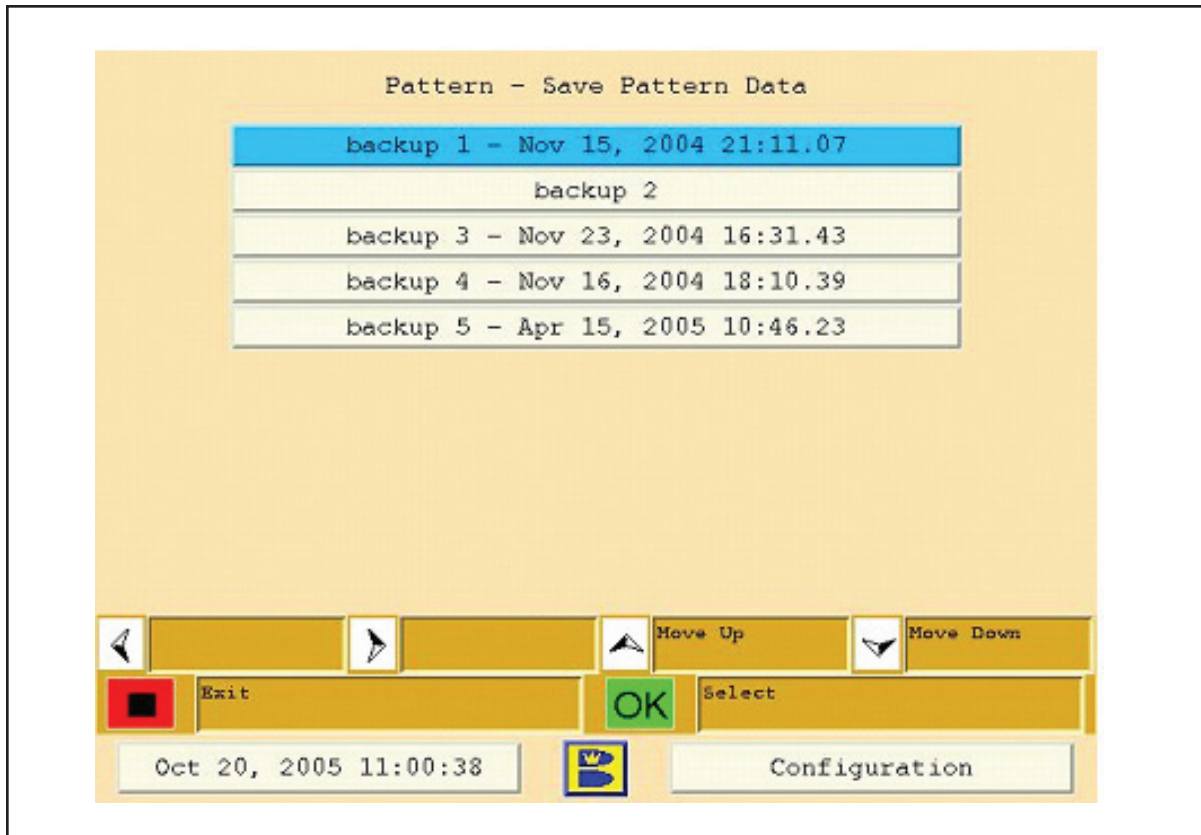

Figure 5-14. Save Pattern Data
3. Select the option you wish to perform by navigating with the up/down arrows and press “OK” and the following screen will appear. Refer to Figure 5-14.